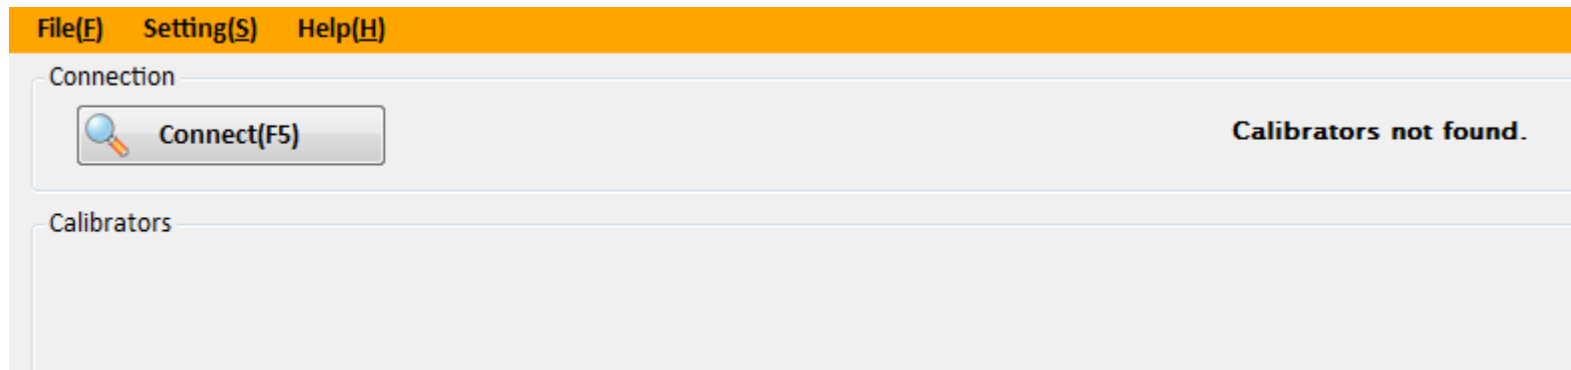

Figure 4.2.1
- If there are no calibrators, you will see the message of “**Calibrators not found**”.See figure 4.2.1 below.